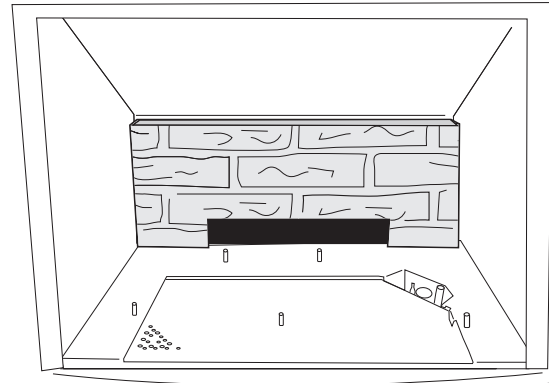

Figure 40. Install Lower Rear Panel
- 4. Install the Lower Rear Panel.** Position it up against the back wall, resting on the burner skirt. Fig. 40.